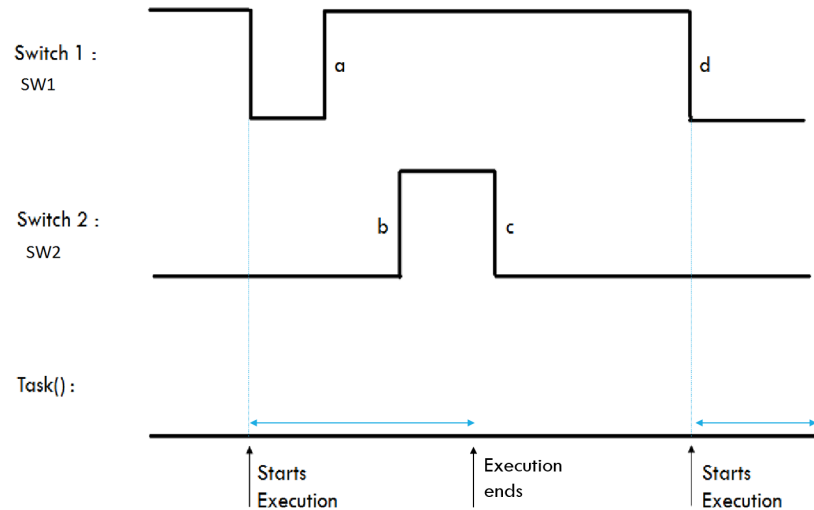

Figure 1: Timing Diagram.
1. [100 points]: A colleague wants your help in executing a particular task for which you need to write a code such that a task() is executed as soon as the following events occur (See Figure 1).